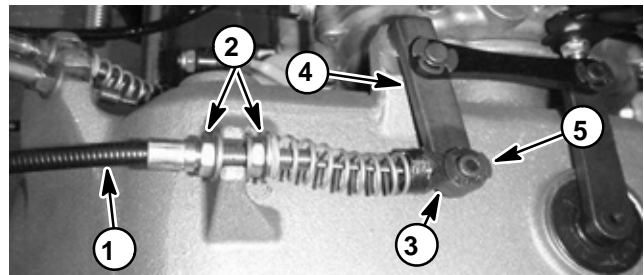

Figure 8
3. Remove reel control cable from the gearbox as follows (Fig. 8):
2. Route reel control cable to the gearbox. Install cable to the gearbox as follows (Fig. 8):